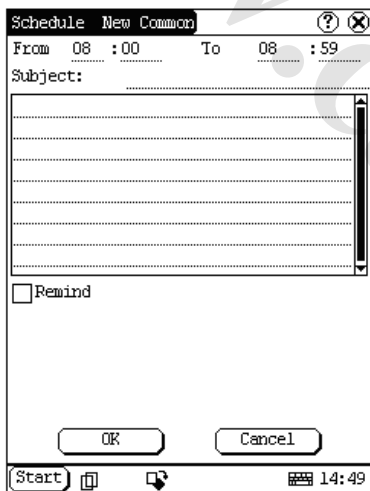

Figure 4-34
- 3) If the selected cycle is 'Daily', 'Weekly', 'Monthly' or 'Annual', you can input the repeat time in the textbox on the bottom of the interface. See Figure 4-34.